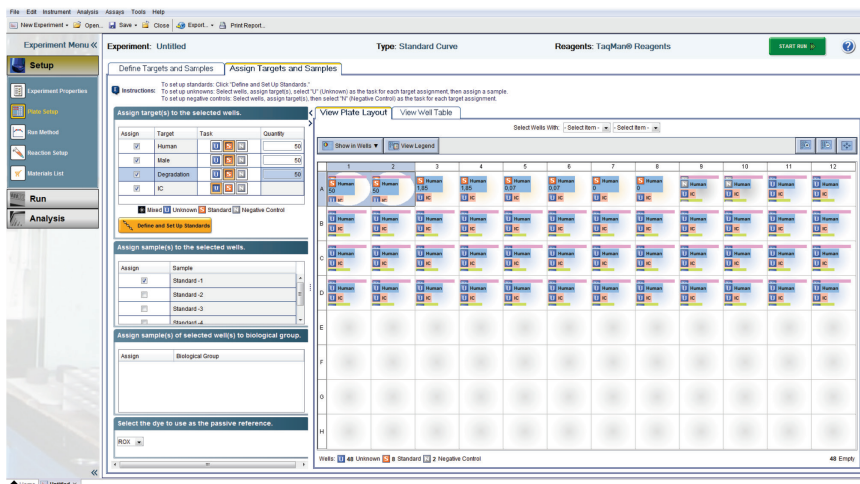

Figure 29. Entering the sample name and assigning the samples.
17. Assign the samples to the plate layout by clicking on the wells and checking the appropriate box on the left panel (Figure 29).